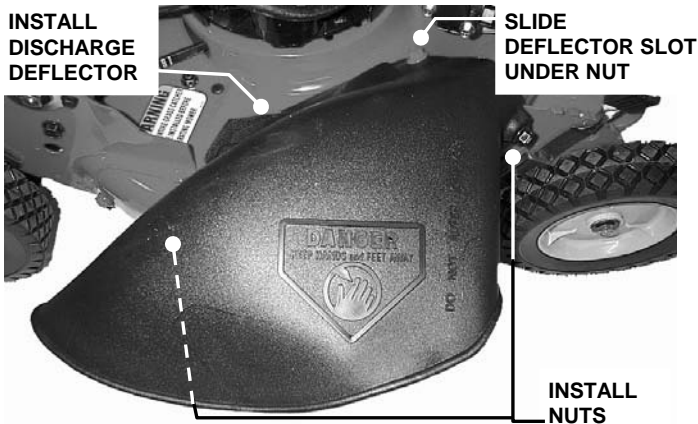

FIGURE 2.18
2. Install discharge deflector and secure to deck using hardware removed in Step 1. Slot in front edge of discharge deflector must be under nut as shown and both bolts protruding through holes in the side of the deflector. See Figure 2.18.